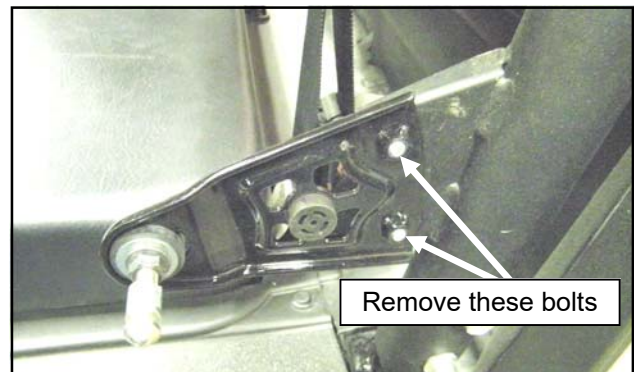

Fig. 1.2 Factory door latches (4)
1.2 Per figure 1.2, remove factory door latches for front and rear doors.